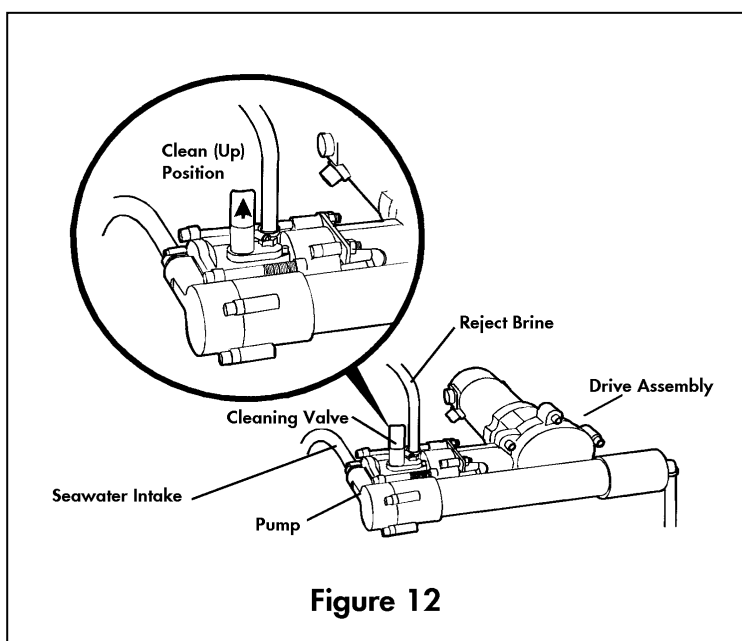

Figure 12
1. Lift the lever on the cleaning valve on the pump to place it in its “clean” or “up” position (see **Figure 12**).